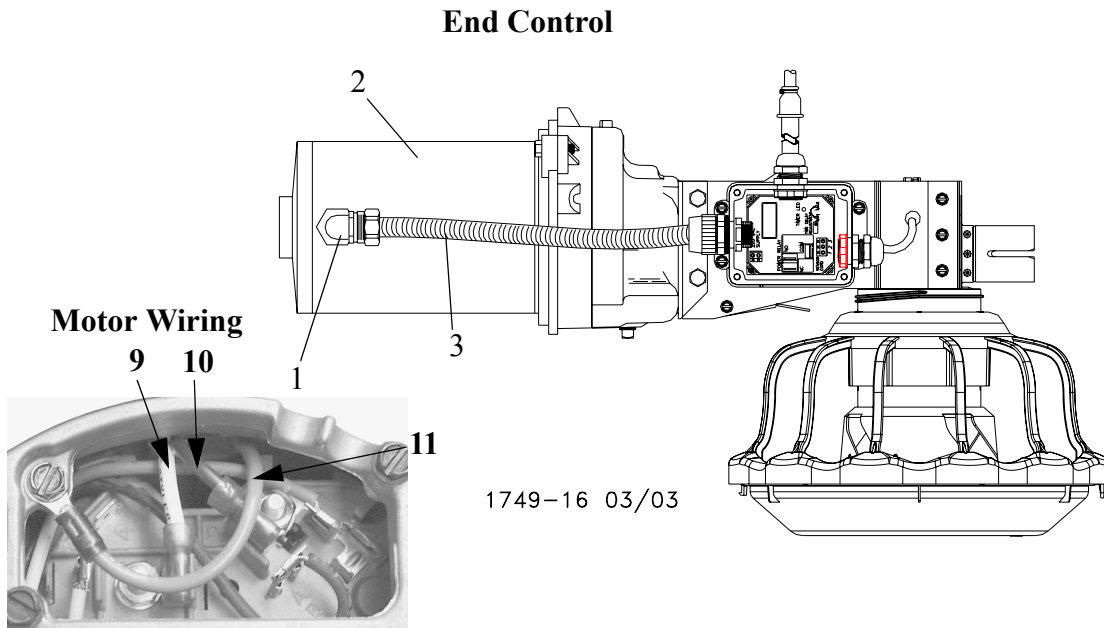

Figure 45. Wiring the Motor
8. Install the Metal Water Tight Connector (item 1) in the Feed Line Motor (item 2). Cut the Flex Conduit (item 3) to length. Slide the wires from the end control through the Flex Conduit (item 3). Install the Flex Conduit (item 3) in the connectors. Connect the wires to the Feed Line Motor (item 2), see **figure 45**.